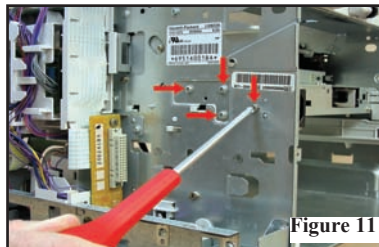

Figure 11 - Remove the four screws labeled "M4" (red arrows).
7. Staying on the right side of the printer, find the four screws labeled "M3" (Figure 11, arrows) and remove them.